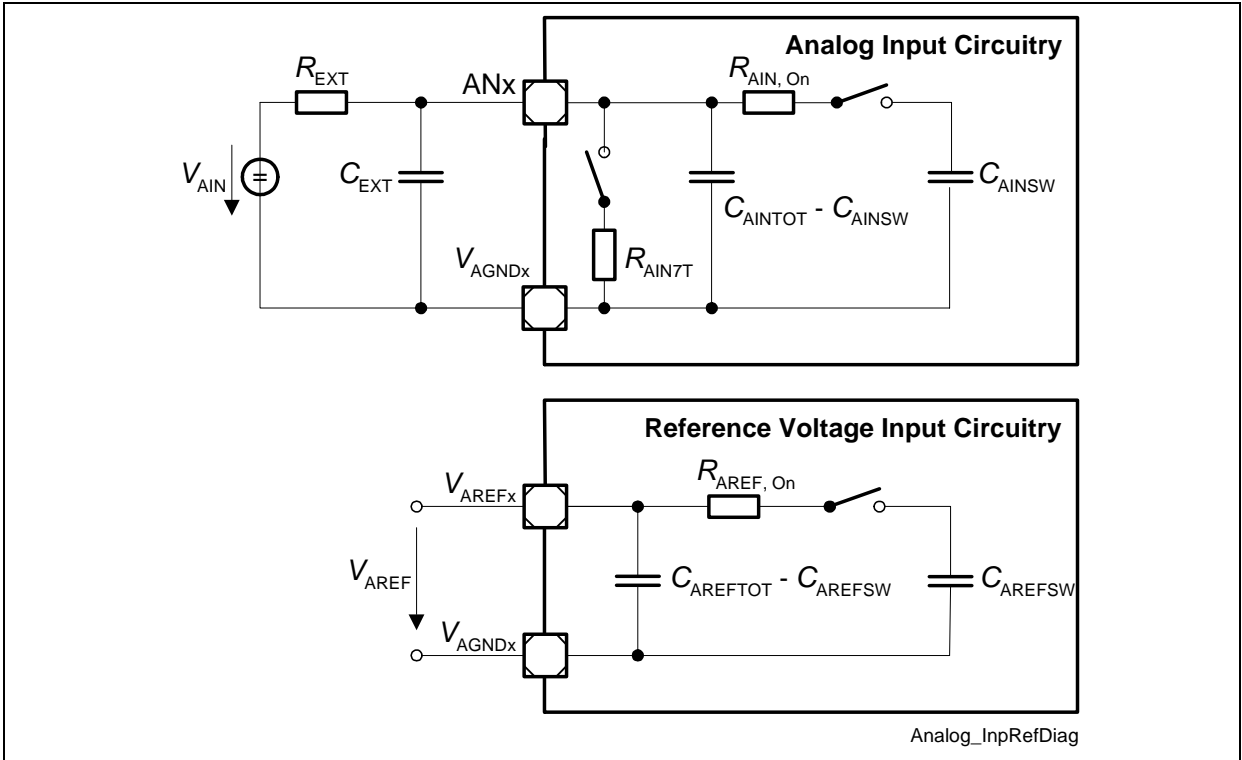

Figure 19 ADC0/ADC1 Input Circuits
- 15) For the definition of the parameters see also **Figure 19**.